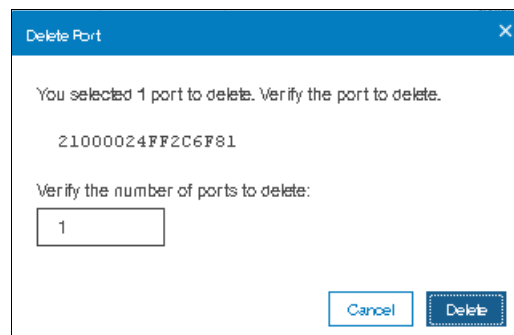

Figure 8-39 Delete port
3. Verify the number of ports and the port to be deleted as shown in Figure 8-39.